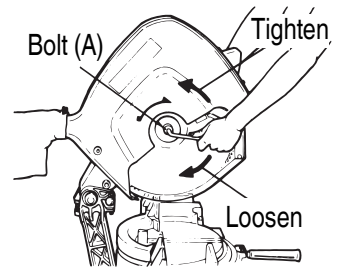

**Fig. 12**
1. Mounting the saw blade (**Fig. 12, 13** and **Fig. 14**)